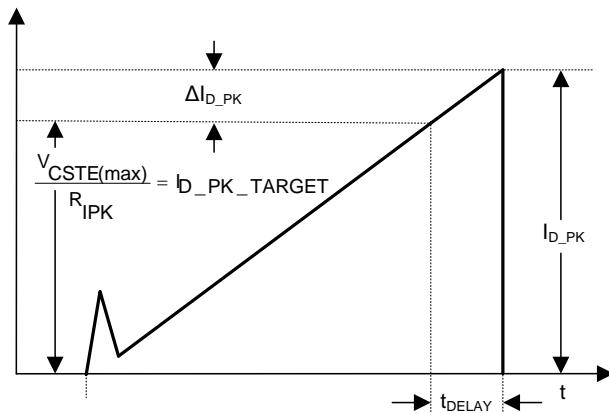

Figure 20. Propagation Delay Effect on the Primary Current Peak
During normal operation the on-time is determined by sensing the power FET current and switching off the power FET as this current reaches a threshold fixed by the feedback loop according to the load condition. The power FET is not immediately turned off and its current, that is also the primary winding current, continues to rise for some time during the propagation delay (t_{DELAY} in Figure 20). Keeping the reference for the PWM comparator constant, the value of the primary winding peak current depends on the slope of the primary winding current and t_{DELAY} .
The current loop estimates the output current assuming the primary winding peak current is equal to the I_{PK_TARGET} and compares this estimated current with a reference to obtain the current regulation. Considering, I_{D_PEAK} is different from $I_{D_PEAK_TARGET}$ (see Figure 20) we need to compensate the effect of the propagation delay. The UCC28910 incorporates fully integrated propagation delay compensation that modifies the switching frequency keeping the output current constant during (CC) Constant Current Mode operation. This function is integrated in the controller and requires no external components. This feature keeps the output current constant despite input voltage variations and primary inductance value spread.